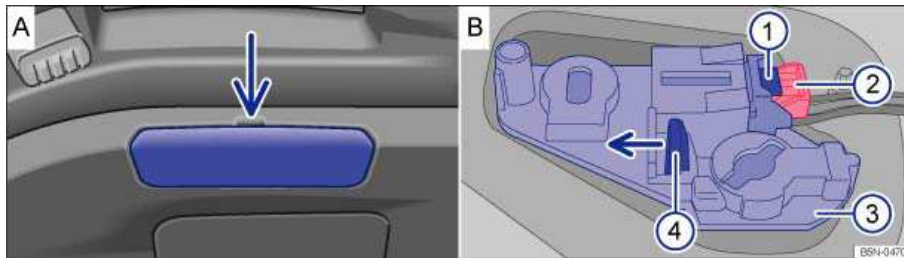

Fig. 208 In the rear hatch: Removing the cover and the bulb holder.
3. Using the screwdriver from the vehicle tool kit carefully pry the cover off with the flat blade of the screw driver inserted in the opening ⇒ fig. 208 A (arrow).
4. Remove the red locking mechanism (2) **B** as illustrated and disconnect the electrical connector with the lever pressed down (1) **B**.
5. Press the locking tab (4) **B** in the direction of the arrow and remove the bulb holder (3) **B**.
8. Insert the electrical connector into the bulb holder until it clicks into place. Press the red locking mechanism (2) **B** back in.